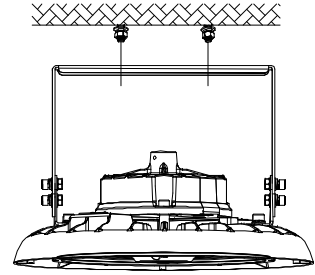
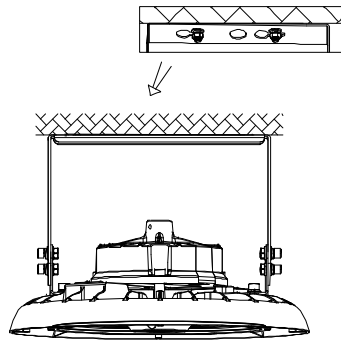

Figure5
Figure6
3. Align the bracket hole with the ceiling anchor(Figure5) then secure it (Figure6)